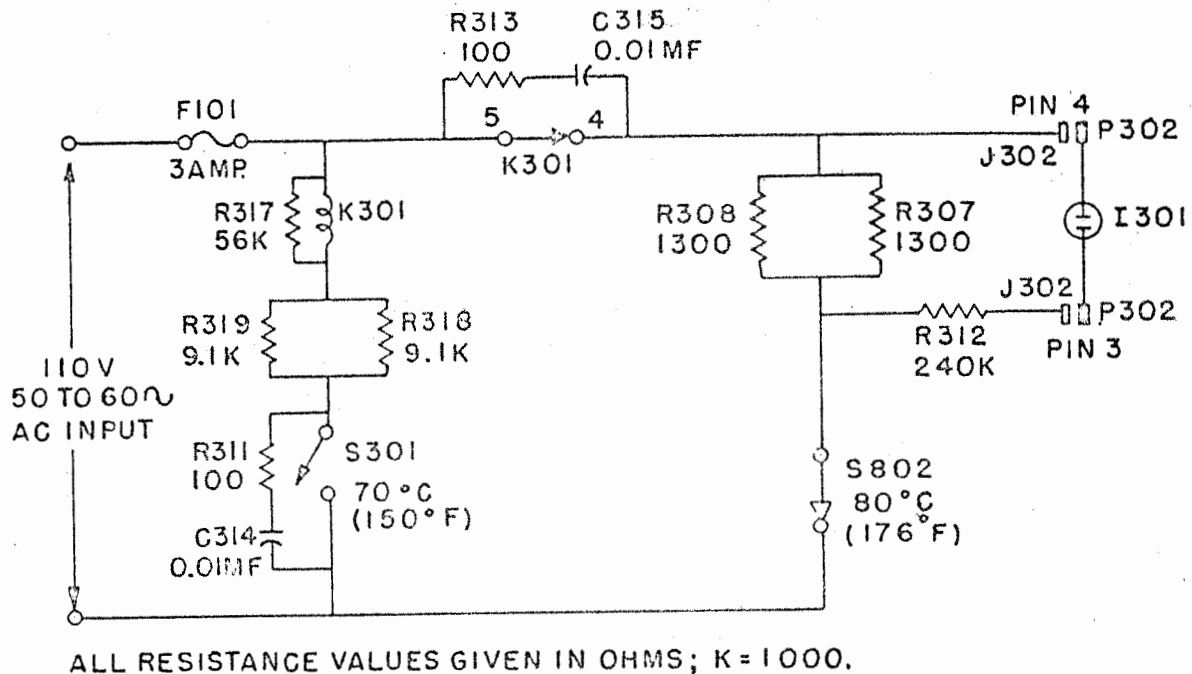

Figure 2-8. Inner Oven Heat Control, Simplified Schematic
(2) THE INTERMEDIATE FREQUENCY OSCILLATOR. - (This portion of Oscillator O-330/FRR-32 is normally not used in Radio Receiving Set AN/FRR-32.) The first half of V201 is a Pierce crystal oscillator circuit. The crystal is set at 3.5 megacycles. C202, C203 and R203 provide a low band-pass filter to keep rf out of the power source, while C242 is the crystal coupling capacitor. The second half of V201 is a class C amplifier, whose tuned plate is link-coupled to the output jacks J205, J206 and J207. The tank circuit is tuned to 3.5 megacycles by L201 and C207. C206 couples the output circuit to the cathode, pin 8, of V201. Metering is accomplished in essentially the same manner as described in the high frequency oscillating circuit; a portion of the r-f output is coupled to rectifier CR201 through C208. This germanium diode and its associated filter network (R206, C209) produce a d-c level proportional to the r-f output voltage. This is fed to the front panel milliammeter so that output indication is available. Full scale deflection is approximately equivalent to 10 volts rms of r-f voltage.
(3) THE BEAT FREQUENCY OSCILLATOR. (This portion of Oscillator O-330/FRR-32 is normally not used in Radio Receiving Set AN/FRR-32). - V105 is a modified type of Pierce crystal oscillator and toggle switch S105 may throw either crystal Y101 or Y102 into the oscillator circuit. The plate tank circuit of V105 is tuned by variable inductor L102, C120, and C121. The voltage output, controlled by potentiometer R116, is fed to the output jacks J102, J103, and J104. The metering in this case is similar to that discussed in the preceding paragraph. A portion of the r-f output is coupled to CR102 through C118, and rectified dc is filtered by R115 and C117. Full-scale deflection of the meter is equivalent to 20 volts rms of r-f voltage.
(4) THE CALIBRATING CHAIN. - The voltage from the 100-kc calibrating oscillator and the high-frequency variable oscillator is fed to pins 1 and 7, respectively, of the pentagrid converter V103. The difference frequency is picked off by filter action of the capacitors C111, C112, and resistor R108. This is a low pass filter with a rising characteristic at very low frequencies. The audio signal is then amplified successively by the first and second halves of V104. Variable resistor R112 provides audio volume control, working in conjunction with rotary switch S104, which turns on and off the 100-kc oscillator. The front panel milliammeter is switched into the cathode circuit of the final amplifier, so that the zero beat may be seen by the swinging of the meter needle about the center dial reading. J105 is capacitively coupled to the plate of V104 through C116 to accommodate earphones so that the zero beat frequency may be picked up. The circuit built around CR101 containing C105, C102, and R102 is for metering the variable master oscillator output. A portion of the variable master oscillator output is coupled to rectifier CR101 through C106 and the d-c, filtered by R102 and C105, is fed through switch S107 to the front panel meter.
(5) THE POWER SUPPLY. - Transformer T101 supplies the necessary power and filament voltages for the Radio Frequency Oscillator. V101 is a full-wave vacuum rectifier with choke (L101) filter input. C101 and C104 provides low impedance paths to ground for any r-f current. R101 is used to limit the current passing through V102. This tube is a glow discharge regulator type whose output voltage is held constant and provides +150 volts at point B2.
(6) OVEN CONTROL. - The oven is the heart of the R-F Oscillator. It is composed of two sections, an inner and an outer oven which are thermostatically controlled to 70°C (158°F) and 60°C (140°F) respectively. The inner oven thermostat S302, set to open at 80°C (176°F), protects the unit in case of excessive temperatures, due to sticking or failure of the mercury thermostat, S301. Figure 2-8 illustrates the operation of the inner oven thermostat switch circuit.